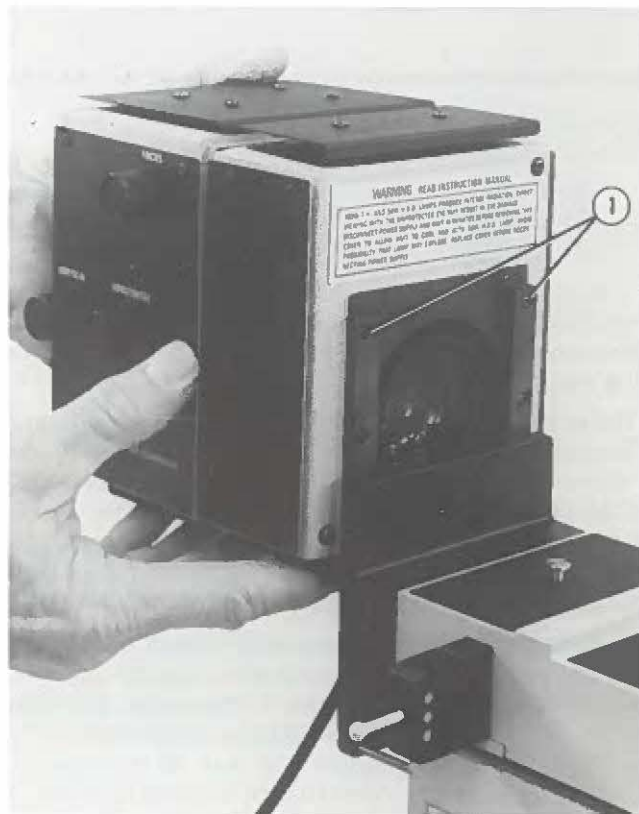

FIGURE 3-5 INSTALLING LAMPHOUSE ON INCIDENT-FLUORESCENCE ILLUMINATOR
3.1.10 Be sure that the line voltage is a nominal 120 volts, 60 Hz. Install the lamphouse by sliding its dovetail slide (Figure 3-5) down over the dovetail slide of the incident-fluorescence illuminator or the research base illuminator.